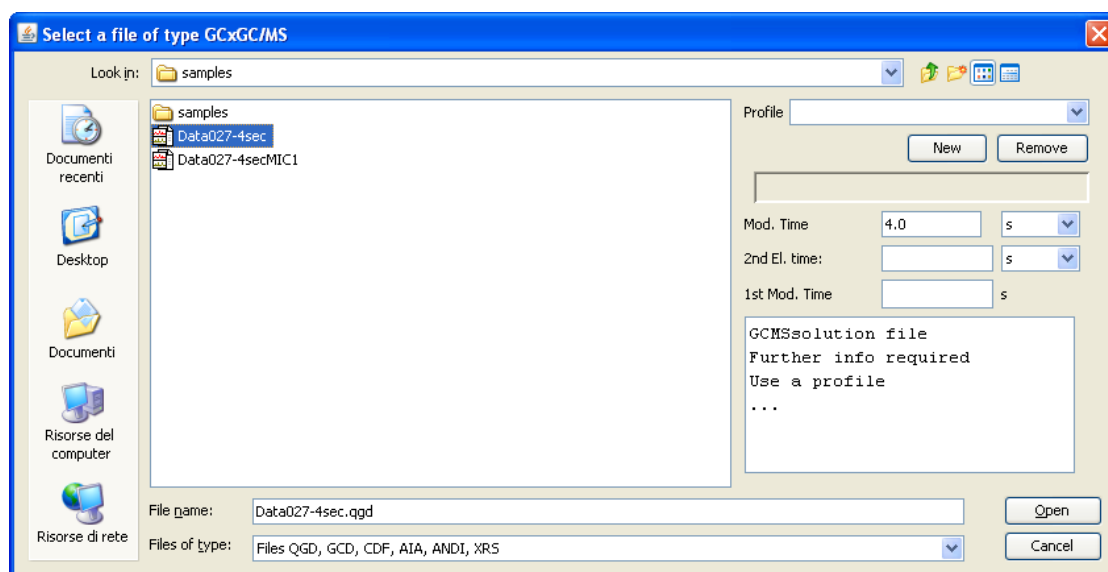

Figure 11.13: Open Dialog Box with Profile Combo Box
3. In the upper-right side of the Dialog Box a combo box named **Profile** will be shown, together with the two buttons **New** and **Remove** (see Figure 11.13).